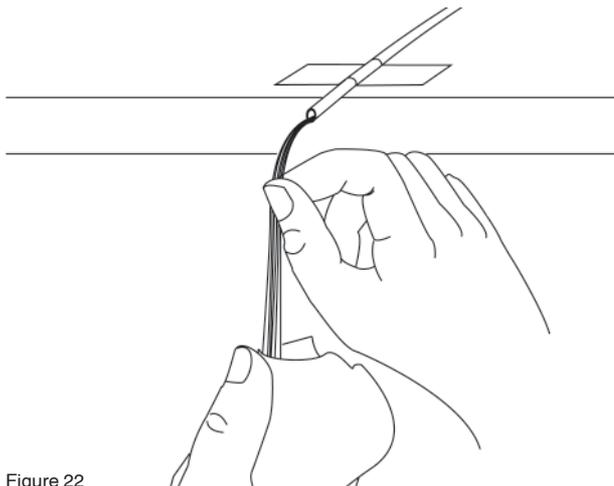

Figure 22
**8.4** If the buffer tube is Gel-free, carefully cut out the water block yarns and proceed to step 8.6 (Figure 22). Use a clean lint free tissue to thoroughly dry each fiber.